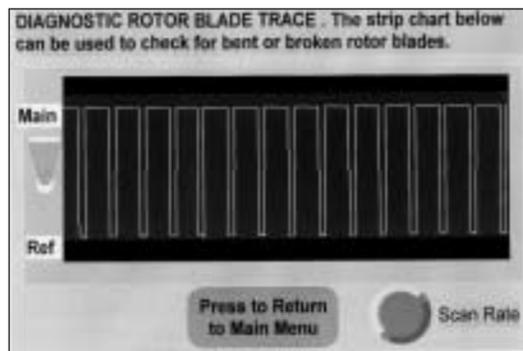

Figure 11 Display of Rotor Blade Traces
- Click on the left hand box, “Check For Bent or Broken Rotor Blades” or press F1. Figure 11 is a square wave trace that shows the condition of the rotor blades. Click on the icon at the left of the screen to toggle from the main rotor to the reference rotor. Each screen should show at least 14 blade traces. If not, adjust the display by using the “scan rate” icon. Place the pointer on the knob and adjust CW or CCW with the mouse until at least 14 blade traces are showing. On this screen, a missing trace (a blank space between traces) represents a bent or missing rotor blade. If no blade traces are missing, return to the main menu by pressing “Enter”.